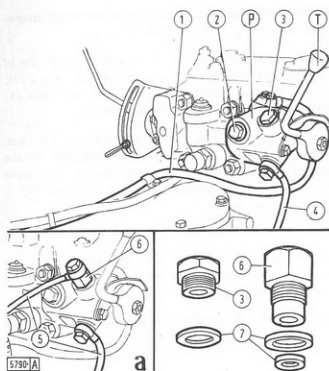

Fig. 229 - Auxiliary Control Valve in Position for Single- or Double-acting Cylinder Operation
Auxiliary control valve (P, Fig. 229) is used for the remote
If the unit is used to control single-acting cylinders connect a pipe (4, Fig. 229) to the lower port. For the control of double-acting cylinders, connect two pipes (5) to the two existing ports, and fit connector (6) in place of plug (3).